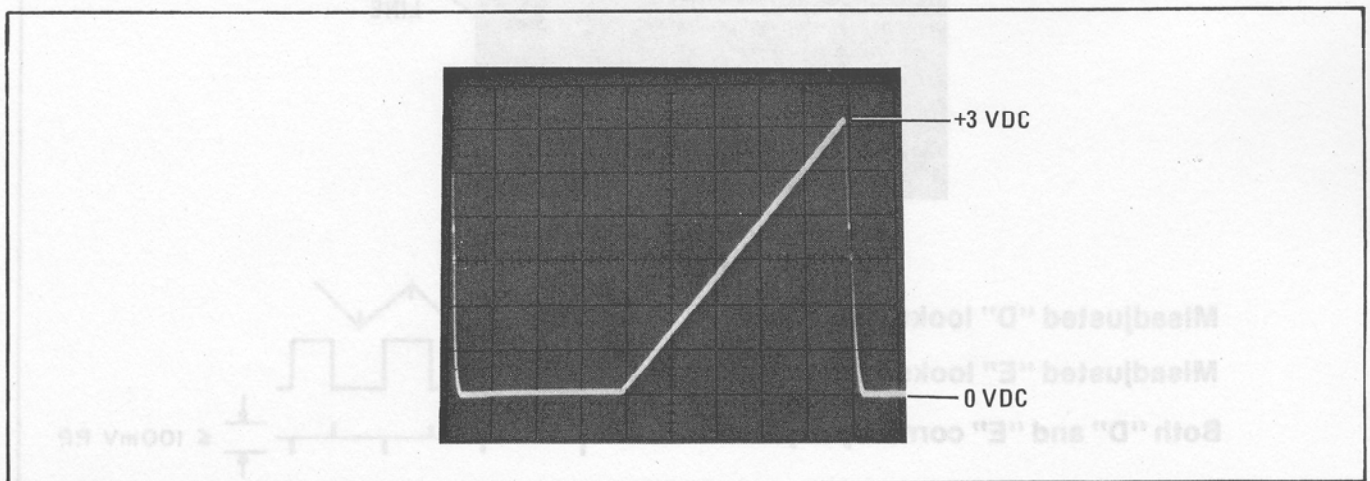

Figure 5-2. Stairstep Waveform at A2TP6
**Adjustment Description:** Adjust "A" so the waveform just reaches  $+3$  Vdc  $\pm 0.1$  Vdc as shown in Figure 5-2.